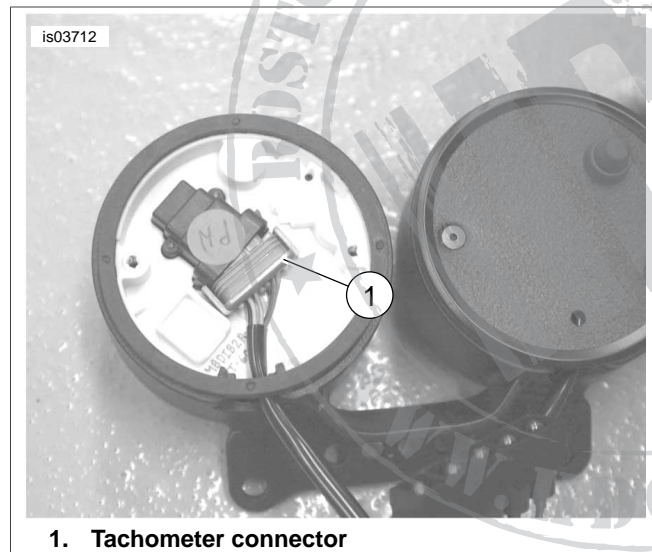
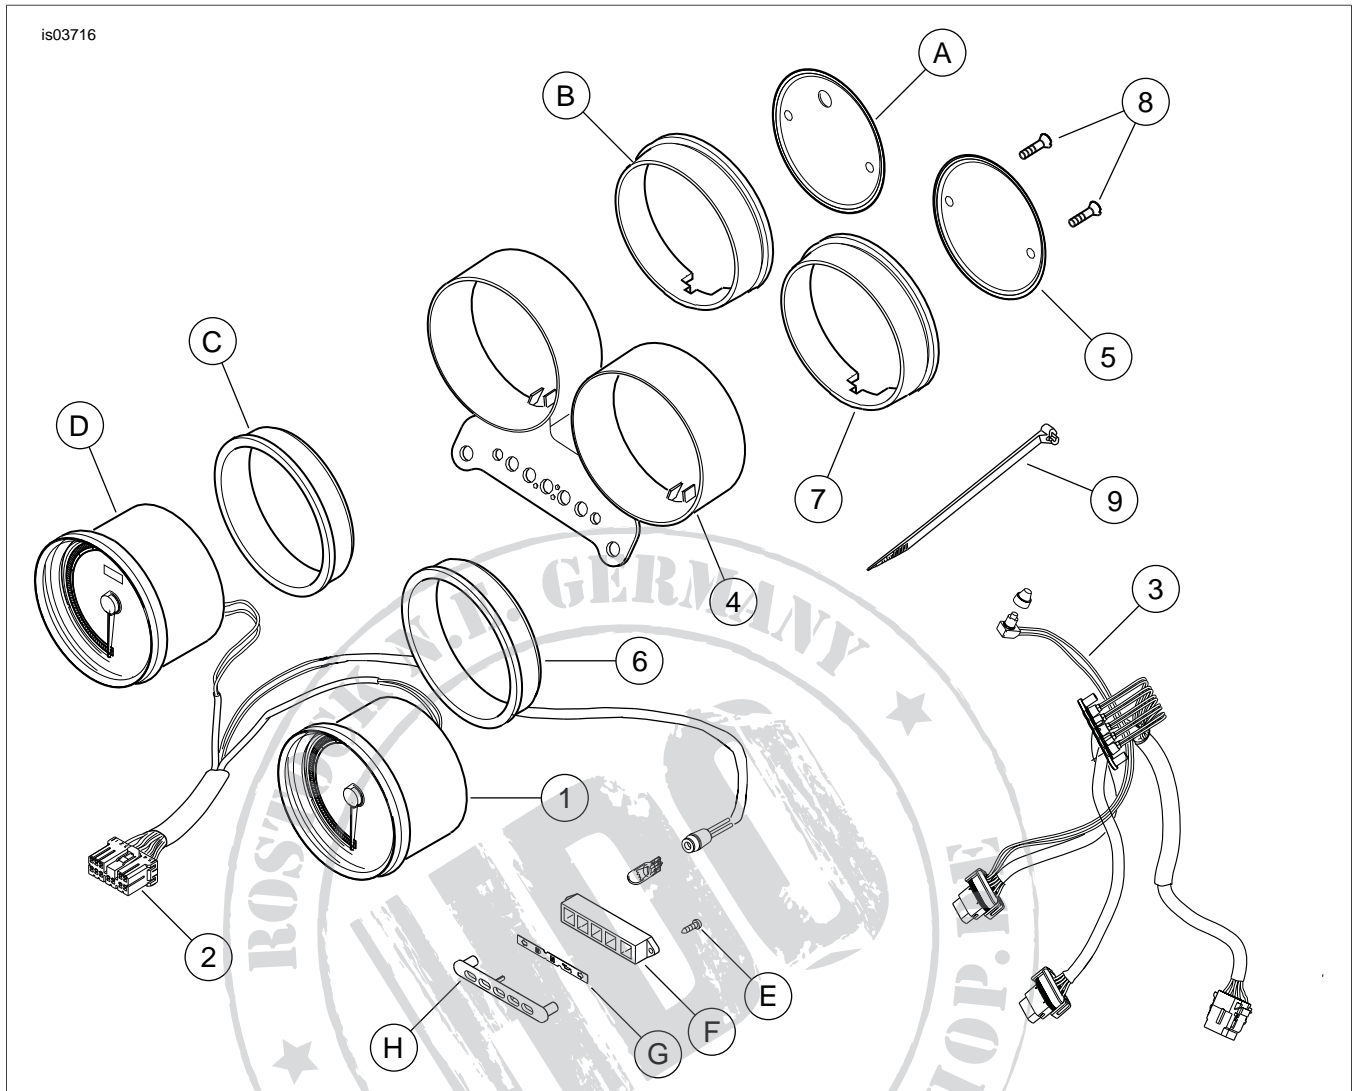

Figure 6. Assemble Tachometer
Figure 9. Service Parts: XL Tachometer Kit
See Figure 9 and Table 1.
- See Figure 9. Note location of all indicator light components mounted in speedometer bracket. Each indicator lamp has the lamp's function printed on one of the lamps leads. Remove the two screws that secure the indicator light components to the speedometer bracket. Retain screws and indicator light components for installation on speedometer/tachometer bracket later.
16. See Figure 9. Obtain the tachometer (1), front and rear gaskets, rear cover (5) and cover screws (8) from kit.
17. Lubricate the front tachometer gasket with isopropyl alcohol or glass cleaner and install to front of tachometer. Insert tachometer through front of right opening in double bracket (4).
18. See Figure 6. Lubricate the rear tachometer gasket. Locate the tachometer connector (1) on the harness. Place rear gasket in position and align gasket tabs. Insert tachometer wiring and connector between gasket and tachometer making sure wiring rests in wire guide. Connect the tachometer connector. Work the rear gasket into space between tachometer and bracket by pushing tachometer against one side of bracket while pushing gasket into position at the opposite side.
20. See Figure 9. Place the indicator light bezel (H) and color strip on front of dual bracket (4). Make certain color strip stays in position on locating pins.